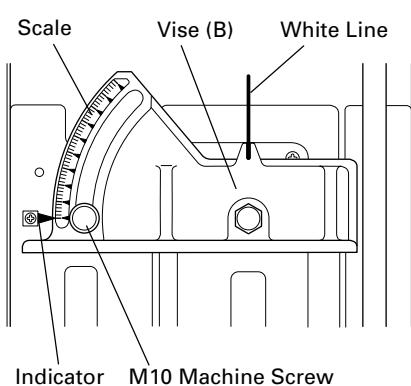

Fig. 15
5. How to adjust 0 positon (Fig. 15)